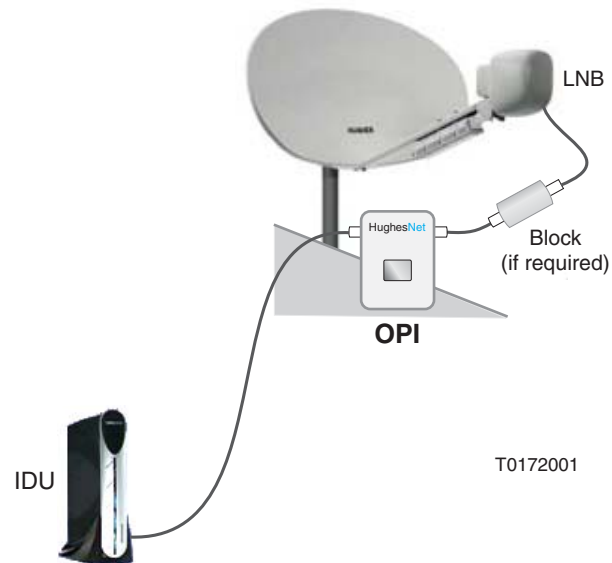

Figure 46: OPI
**Installing the OPI** To prepare for antenna pointing, attach the OPI to the receive cable from the LNB, as shown in Figure 46. Note that the OPI will not work unless it is enabled on the appropriate screen on the installation software. (Check the box labeled Enable OPI Display.) For further details, see *Outdoor Pointing Interface Operating Instructions* (1031832-0001).
Install the block between the OPI and the radio as illustrated in Figure 46. If the block you use has two female F connectors (at both ends), you will have to make a jumper cable to connect to the OPI.